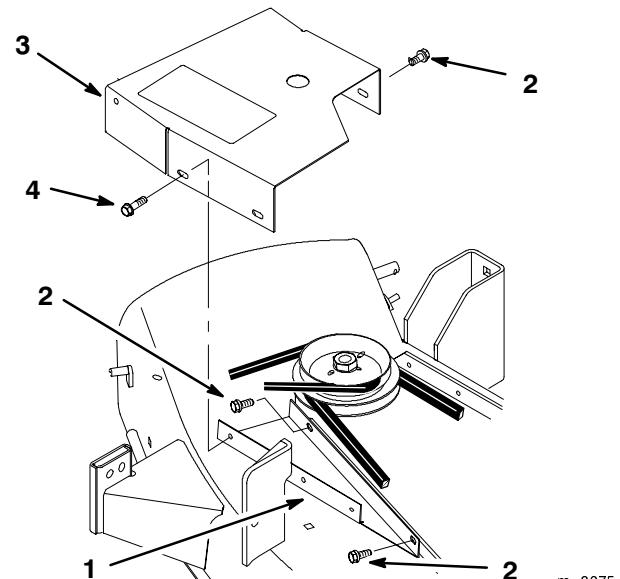

Figure 25
2. Remove the mower belt cover and belt cover bracket from the right side pulley (Fig. 25).